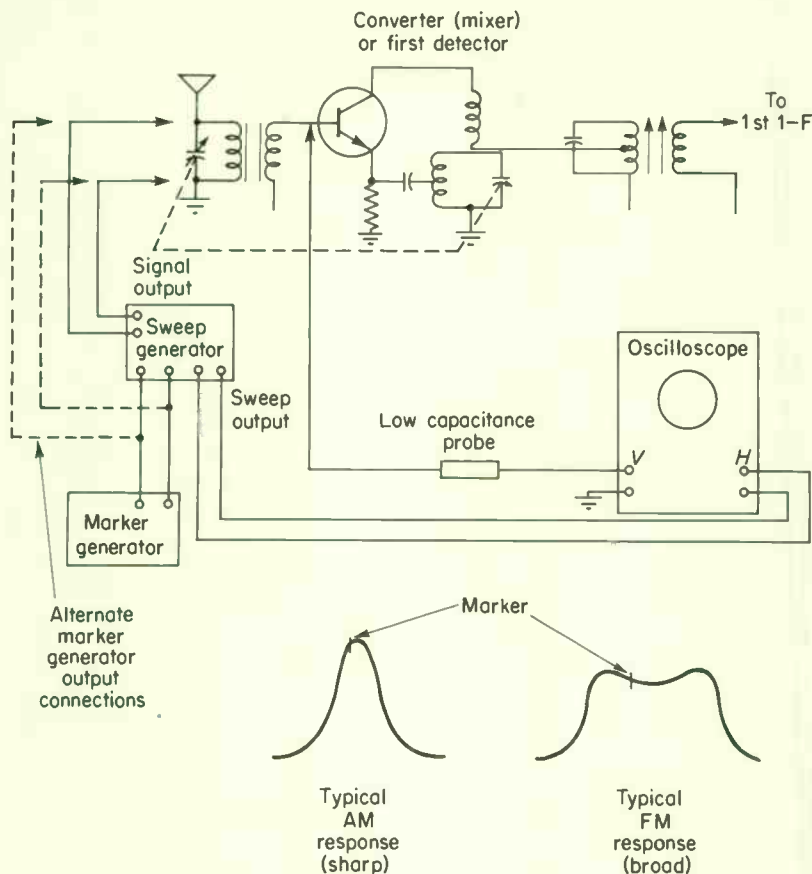

Fig. 11-6. Alignment of RF (front end) stages with an oscilloscope.
1. Connect the equipment as shown in Fig. 11-6.
4. Check the RF response curve appearing on the oscilloscope against those of Fig. 11-6, or against the receiver specifications.